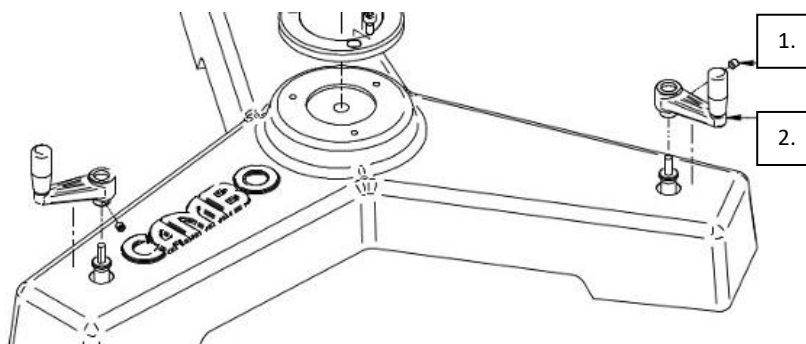

Figure 1. Mounting the cranks.
2. Mounting the cranks (fig.1).